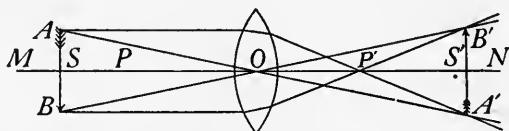

FIG. 383.—Construction of a real image by a convex lens
right angles to its greatest diameter and along this axis are certain definite positions as shown in Fig. 383. Let MN be the *principal axis* of a convex lens, P and P' are *principal foci* on either side of the lens, S and S' are *secondary foci*. These are at points on the principal axis that are twice as far from O , the center of the lens, as are the principal foci. In the formation of images by a convex lens, several distinct cases may be noticed:
(A) If a luminous body is at a *great distance* at the left, its light is brought to a *focus* at P , or its *image is formed* at P . (B) As the *object approaches* the lens the *image gradually recedes* until the object and image are at S and S' , *equally distant from O and of equal size* (as in Fig. 383). The object and image are now said to be at the *secondary foci* of the lens. (C) As the *object moves from S to P* the image recedes, rapidly increasing in size until (D) when